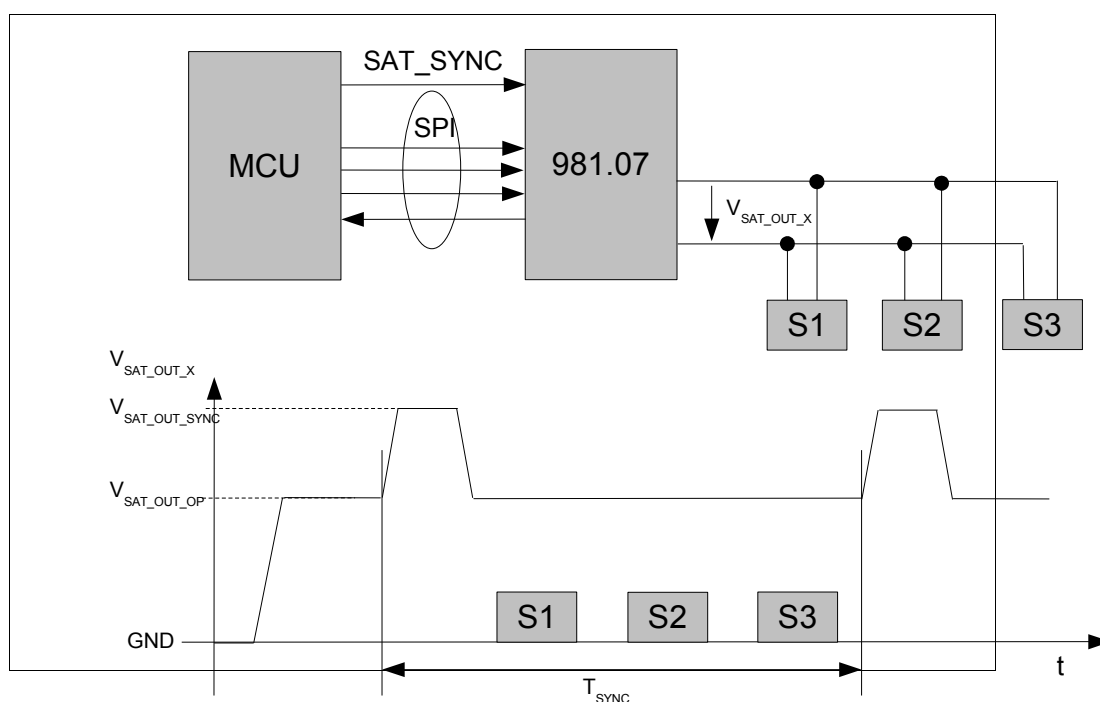
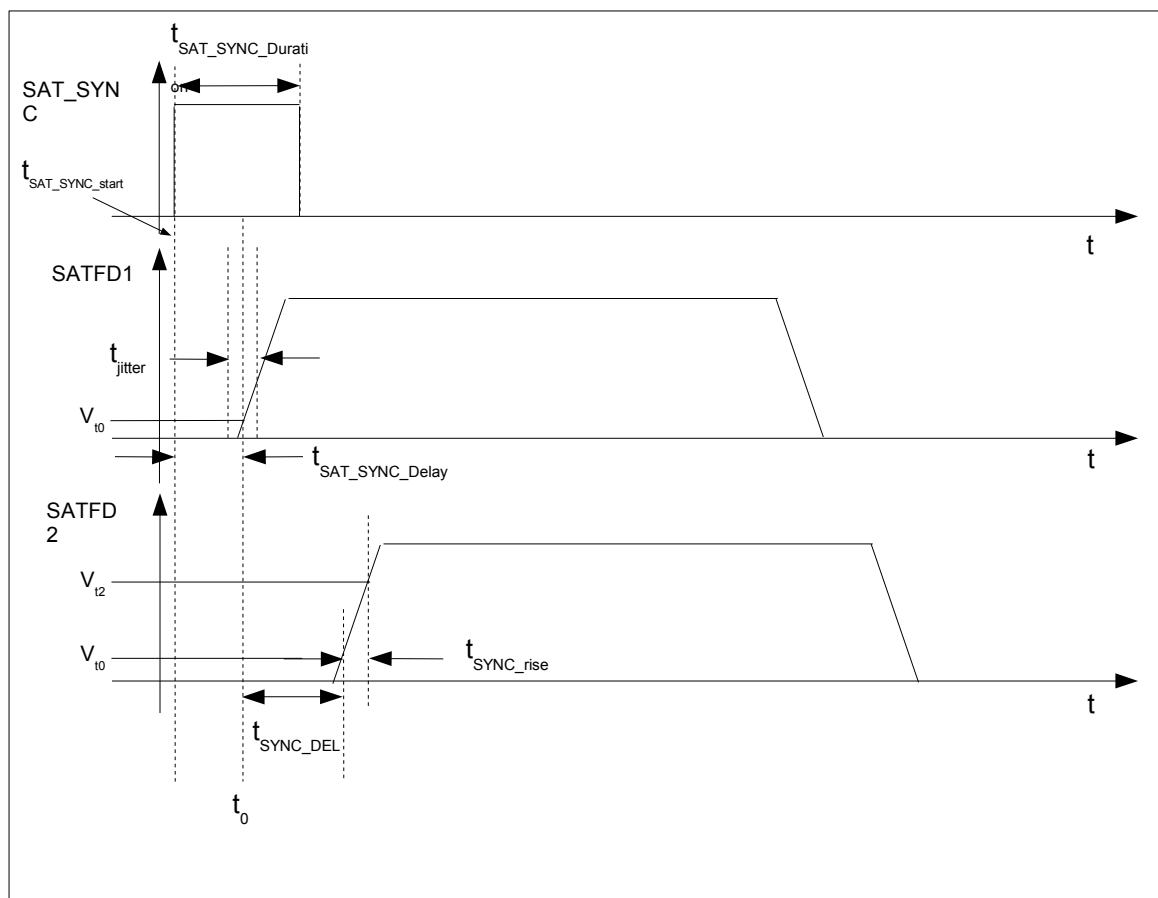
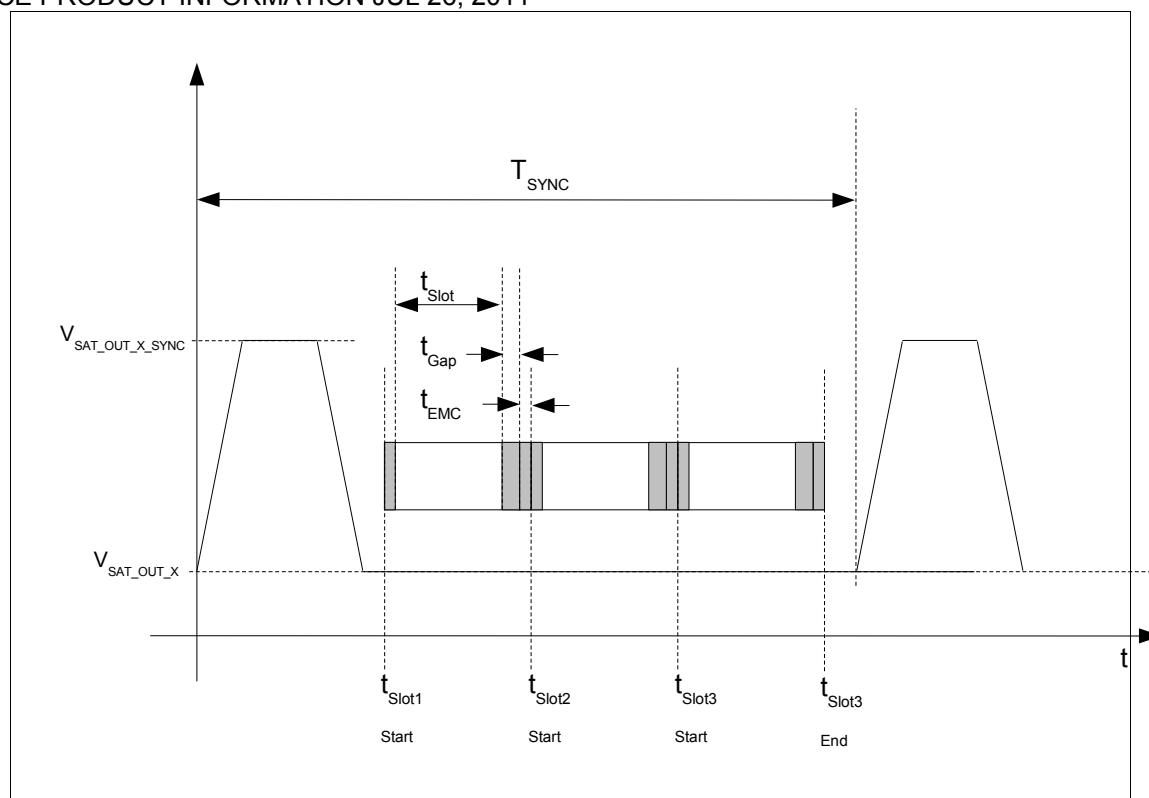

Figure 5.1-4 Synchronous Parallel Bus Mode Configuration (PSI5-P10P-500/3L)
Figure 5.1-5 Satellite Synchronisation Pulses
Figure 5.1-6 Timing for Synchronous Parallel Bus Mode (PSI5-P10P-500/3L)
① The parameter  $t_{SAT\_Sync\_Delay}$  will be measured from the rising edge of the SAT\_SYNC signal ( $t_{SAT\_Sync\_start}$ ) until the voltage at SATFDX is equal Vt0 (Vt0=VSATFDX+0.5V). See figures 5.1-4 and 5.1-6 .
② Not tested in production
③ TCLK= 250 ns plus external clock tolerance
| 2   | Sync slope slew rate rise                | $t_{SL\_rise}$        | See Figure 5.1-4$24nF < C_{BUS, max} < 107nF$ ,$4mA < I_{SAT\_Q} < 35mA$ ①                              | 0.43 | 1    | 1.5  | $V/\mu s$ |
| 3   | Sync slope slew rate fall                | $t_{SL\_fall}$        | See Figure 5.1-4  | -1.5 | -1   |      | $V/\mu s$ |
| 4   | Delay time of the satellite interfaces   | $t_{SYNC\_DEL}$       | programmable in steps of $0.5 \mu s \pm 250ns$default is $4 \mu s$ , see figure 5.1-6 and chapter 5.2.6.2.5 | 3.75 | 4    | 4.25 | $\mu s$   |
Measurement condition:  $(V_{SAT\_OUT\_X}(@V_{t2}=3.5V) - V_{SAT\_OUT\_X}(@V_{t0}=0.5)) / (t_2 - t_0)$  See Figure 5.1-4
In parallel bus mode application, the sensors are connected in parallel to the bus line like shown in Figure 5.1-4. It is possible to connect up to three sensor to each channel of the 981.07. The sync cycle time is 500 $\mu$ s with a data transmission rate of 125kbit/s. The synchronisation pulse for the satellite channel feeds SATFD1-SATFD2 can be activated by MCU via the SAT\_SYNC pin of the device. When a rising edge is detected, the 981.07 outputs sync pulses on channels SATFD1-SATFD2 in sequence to reduce the average current inrush to the satellites as shown in Figure 5.1-5. The satellites can transmit from one to three messages per sync pulse received. The Figure 5.1-6 shows the timing for one channel.